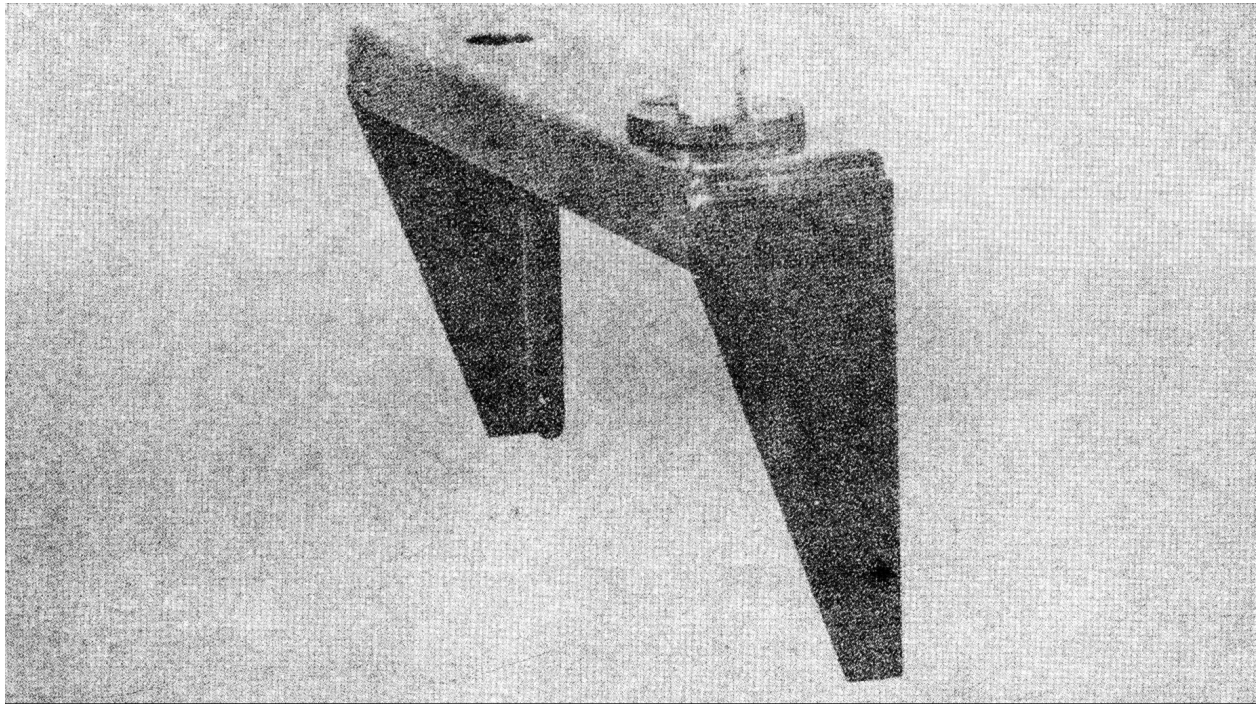

Figure 1-10. Antenna Mounting Bracket
(5) ANTENNA MOUNTING BRACKET. Refer to figure 1-10. The antenna mounting bracket permits vertical mounting of omnidirectional Antenna AS- 1404/PRC-41 in a vehicular installation. It is normally mounted on the rear of Mounting MT-2976/PRC-41 but may be secured to any flat vertical surface by four screws or bolts. The antenna mounting bracket has a BNC-to-BNC feedthrough connector. The upper part of this connector fits Antenna AS-1404/PRC-41 and the lower part mates with a connector on Radio Frequency Cable Assembly CG- 55G/U.